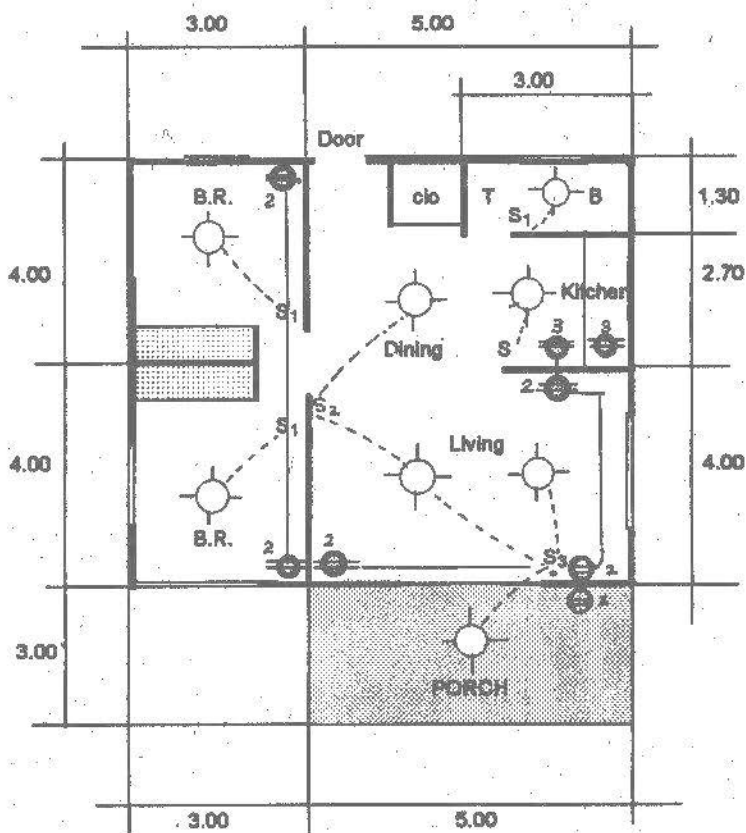

FIGURE 4-15 CONVENIENCE OUTLET LAYOUT
1. From Figure 4-15, there are 6 convenience receptacles for small appliance load. Considering that there are two plug per outlet, the total number of plug will be: